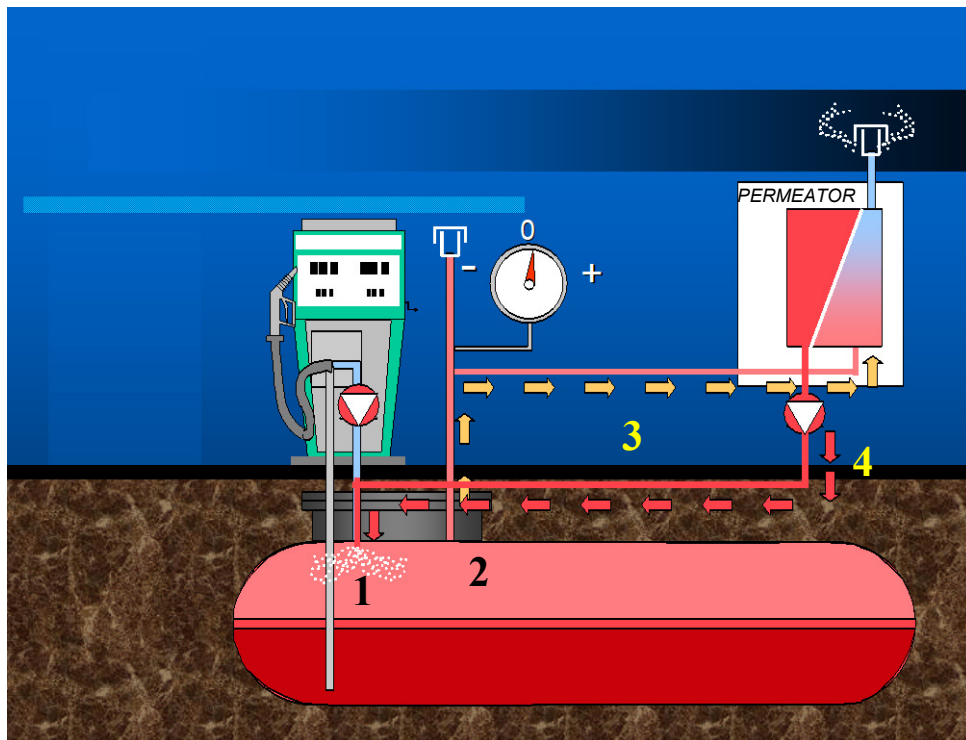

Figure 4
**PERMEATOR System Operation (Please reference Figure 4)**